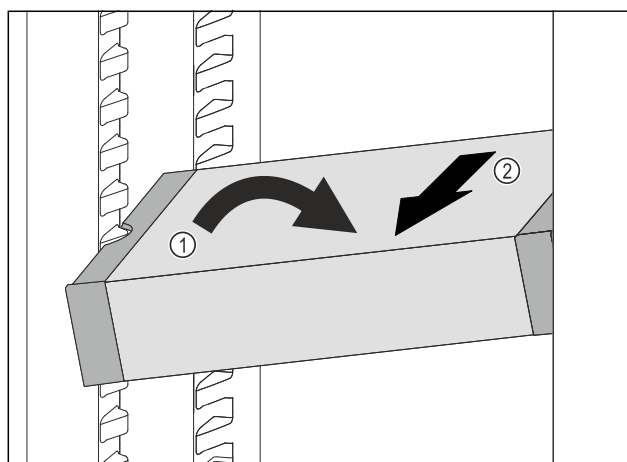

Fig. 92
- Set VarioSafe in refrigerator compartment at an angle. Fig. 92 (1)
- Take VarioSafe out to the front. Fig. 92 (2)